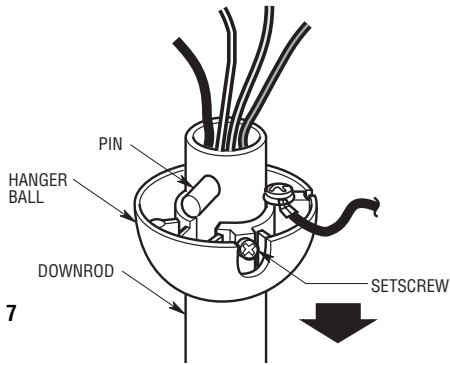

Figure 7
- 11. Obtain the 10" hanger ball/downrod assembly and remove the hanger ball by loosening the setscrew in the hanger ball until the ball falls freely down the downrod (Figure 7). Remove the pin from the downrod, then remove the hanger ball. Retain the pin and hanger ball for reinstallation in Step 22. Discard the 10" downrod if using the 4.5" downrod.